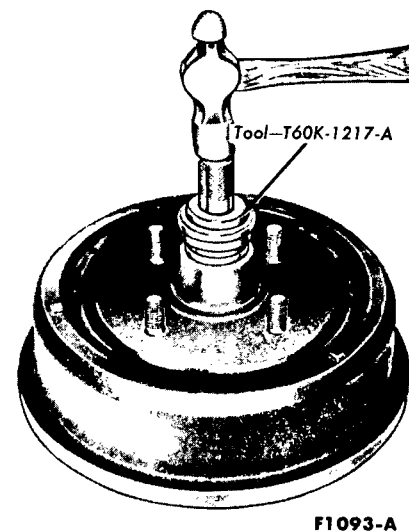

FIG. 6—Installing Front Wheel Bearing Cup—Falcon 6-Cylinder
9. If the inner and/or outer bearing cups(s) were removed, install the replacement cup(s) in the hub with the tool shown in Figs. 6 or 7. **Be sure to seat the cups properly in the hub.**
12. Apply wheel bearing grease around the circumference of the grease retainer seal lip. Place the inner bearing cone and roller assembly in the inner cup, and install the new grease retainer with the reverse end of the tool shown in Figs. 6 to 7. **Be sure that the retainer is properly seated.**
11. If the inner and / or outer bearing cup(s) were removed, install the replacement cup(s) in the hub with the tool shown in Figs. 6 or 7. **Be sure to seat the cups properly in the hub.**
14. Apply wheel bearing grease between the grease retainer lips. Place the inner bearing cone and roller assembly in the inner cup, and install the new grease retainer with the reverse end of the tool shown in Figs. 6 or 7. **Be sure that the retainer is properly seated.**
4. Remove the protective coating from the new hub and drum with carburetor degreaser. Install new inner and outer bearing cups in the new hub with the tool shown in Figs. 6 or 7. **Be sure to seat the cups properly in the hub.**
7. Place the inner bearing cone and roller assembly in the inner cup, and install the new grease retainer with the reverse end of the tool shown in Fig. 6 or 7. **Be sure that the retainer is properly seated.**
7. Place the inner bearing cone and roller assembly in the inner cup, and install the new grease retainer with the reverse end of the tool shown in Figs. 6 or 7. **Be sure that the retainer is properly seated.**